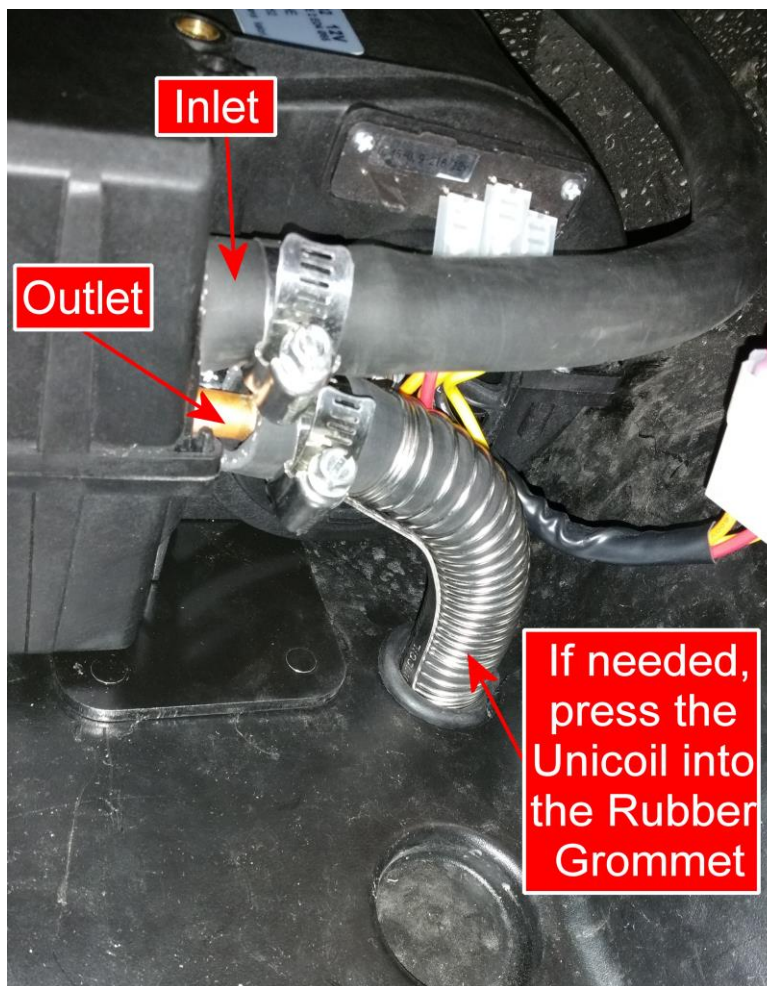

Figure 14
50. Attach the 5/8" Radiator Hose leading from the center tunnel Rubber Grommet to the inlet port on the Heater Unit (see Figure 14). Secure using a #10 Hose Clamp.
51. Attach the 5/8" Radiator Hose leading from the passenger side firewall Rubber Grommet Hose (See Figure 14) to the outlet port on the Heater Unit (see Figure 14). Secure using a #10 Hose Clamp.